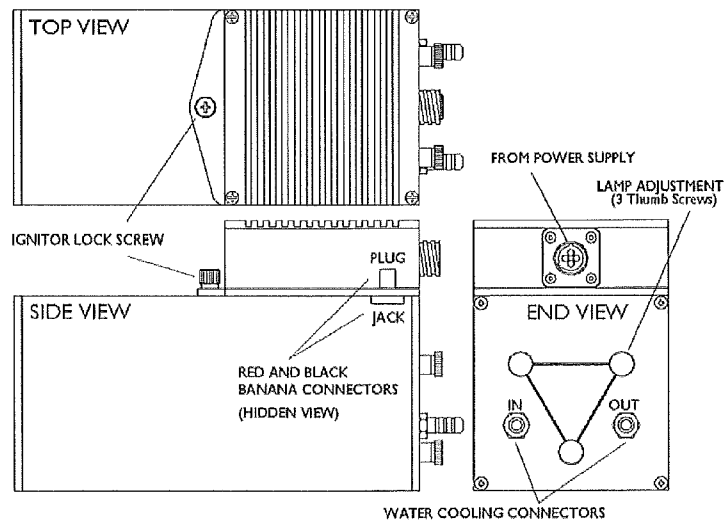

Figure 8 - Securing Igniter onto Lamp Housing
4. Tighten the lock screw that is located on the top side of the igniter (see figure 8). It may help to slightly rock the igniter side-to-side while tightening the igniter lock screw. You should be able to turn it 3 to 4 turns. Do not over-tighten or you may strip the threads.